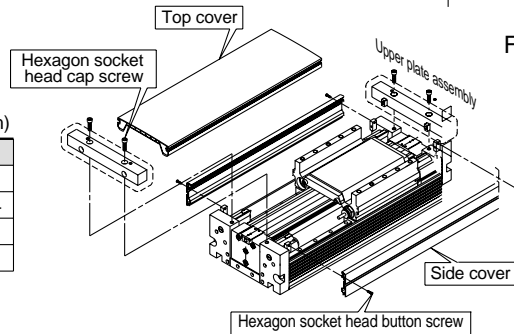

Figure 2. Cover installation and removal
- When the adjustment described in 1 above is insufficient, the shock absorber can be adjusted. Remove the covers as shown in Figure 2 and make further adjustment by loosening the hexagon nut.